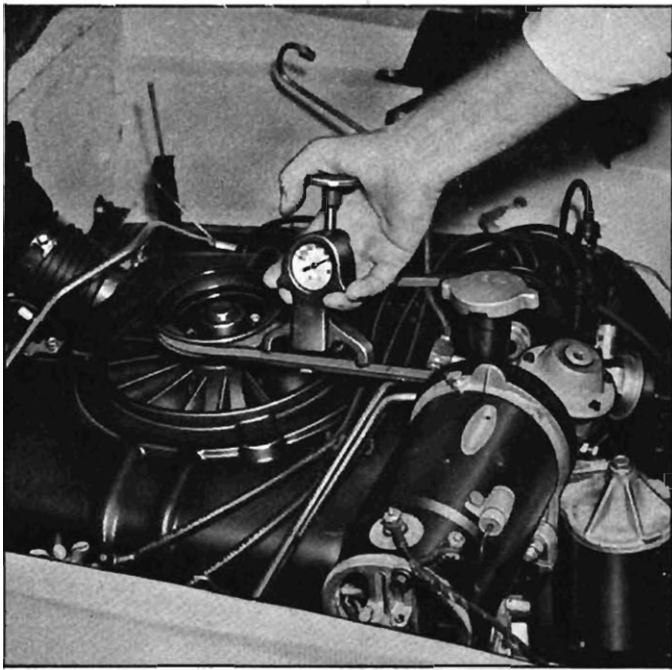

Fig. 7-2—Check Belt Tension.
1. Use a strand tension gauge (fig. 7-2) and adjust idler pulley to give a reading of 75 ± 5 lbs.